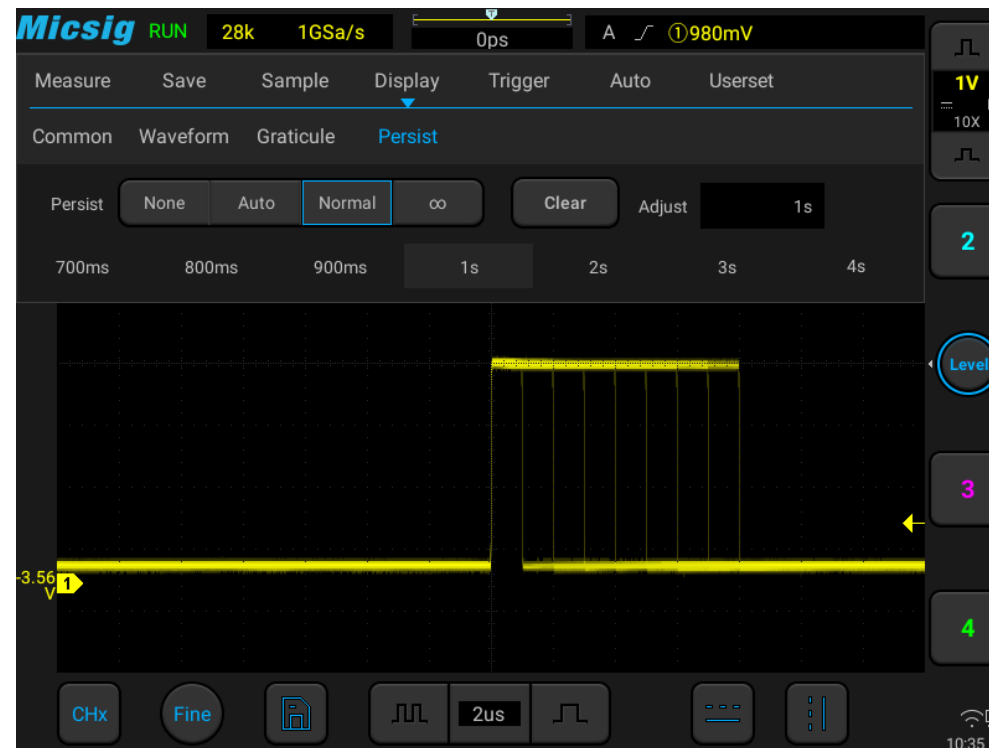

Figure 10-4 Persist time adjust
- **Normal:** Normal - set the persistence time — After selecting the variable persistence, tap the box on the right of “Adjust” to pop up the persistence time selection box (Figure 10-4) and set the persistence time. It can be set between 10ms and 10s.